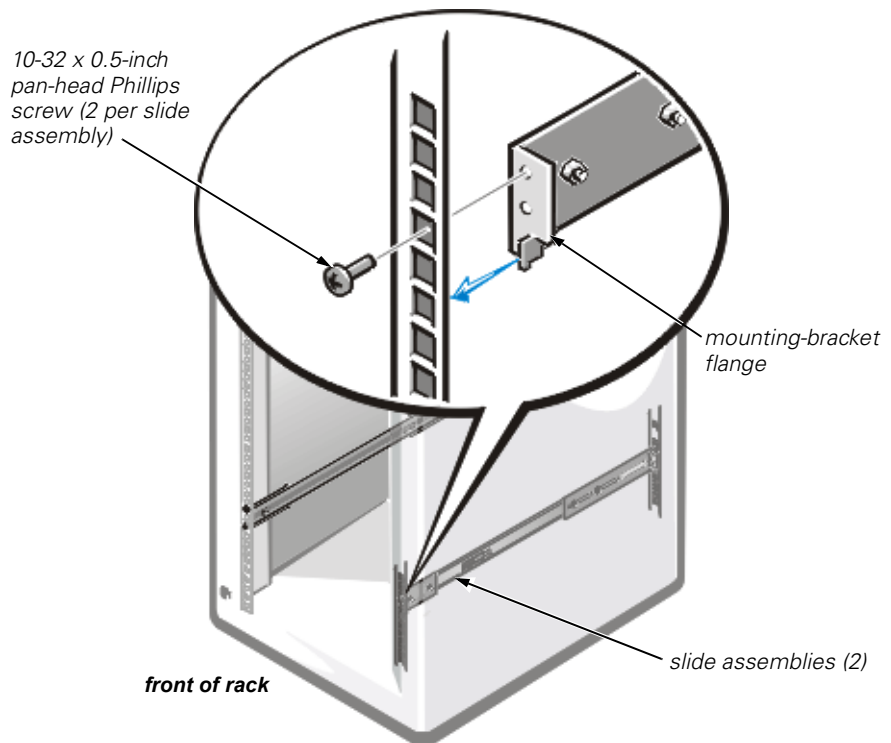

Figure 1-17. Installing the Slide Assemblies
6. At the front of the rack cabinet, position one of the slide assemblies so that its mounting-bracket flange fits between the marks or tape you placed on the rack, marking the upper and lower edges of the template (see Figure 1-17).
7. Secure the front of the mounting-bracket flange with a 10-32 x 0.5-inch pan-head Phillips screw in the front vertical rail (see Figure 1-17).